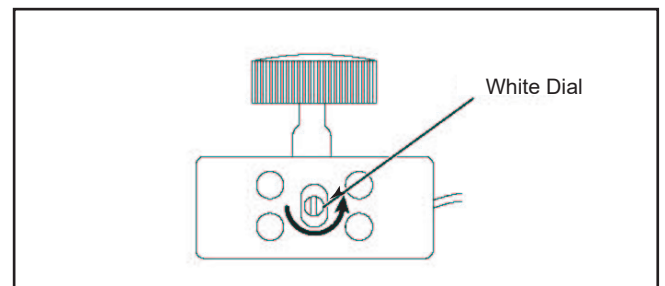

Figure 15
3. If blower does not turn on, turn the fireplace off and allow to cool. Using a small jeweler's style screwdriver, turn the white dial on the side of the speed control 1/8 turn counterclockwise. Figure 15. This will allow the blower to start at a lower speed setting as the fireplace cycles on and off. Retest blower.